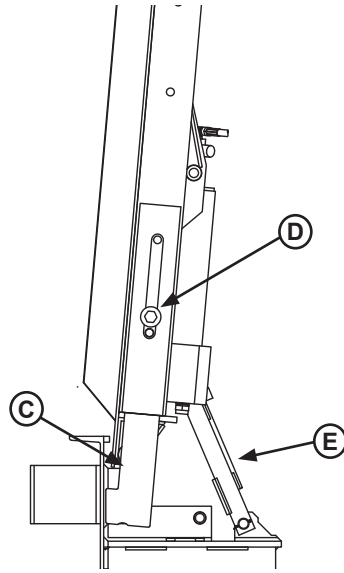

Figure 28
When maintenance is to be performed on the dock leveler, place the maintenance props (C) in their service/down position with hardware (D) tightened by wrench. Ensure the storage prop (E) is locked out with the prop pin and clip (F). See **Figures 28 and 29**. The lip may fold down if the platform has rested on the maintenance props.